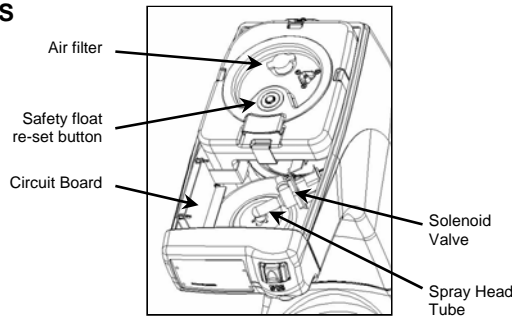

Figure 8
2. Press down on the safety float re-set button (see figure 8).
3. Locate fuse at the lower right side of the circuit board (see figure 8) and inspect the fuse filament for breakage.
3. Locate dump solenoid (see figure 8) and visually inspect clear solenoid valve body for mineral build up or debris.
I. FLOAT CAP AIR FILTER (see figure 8)